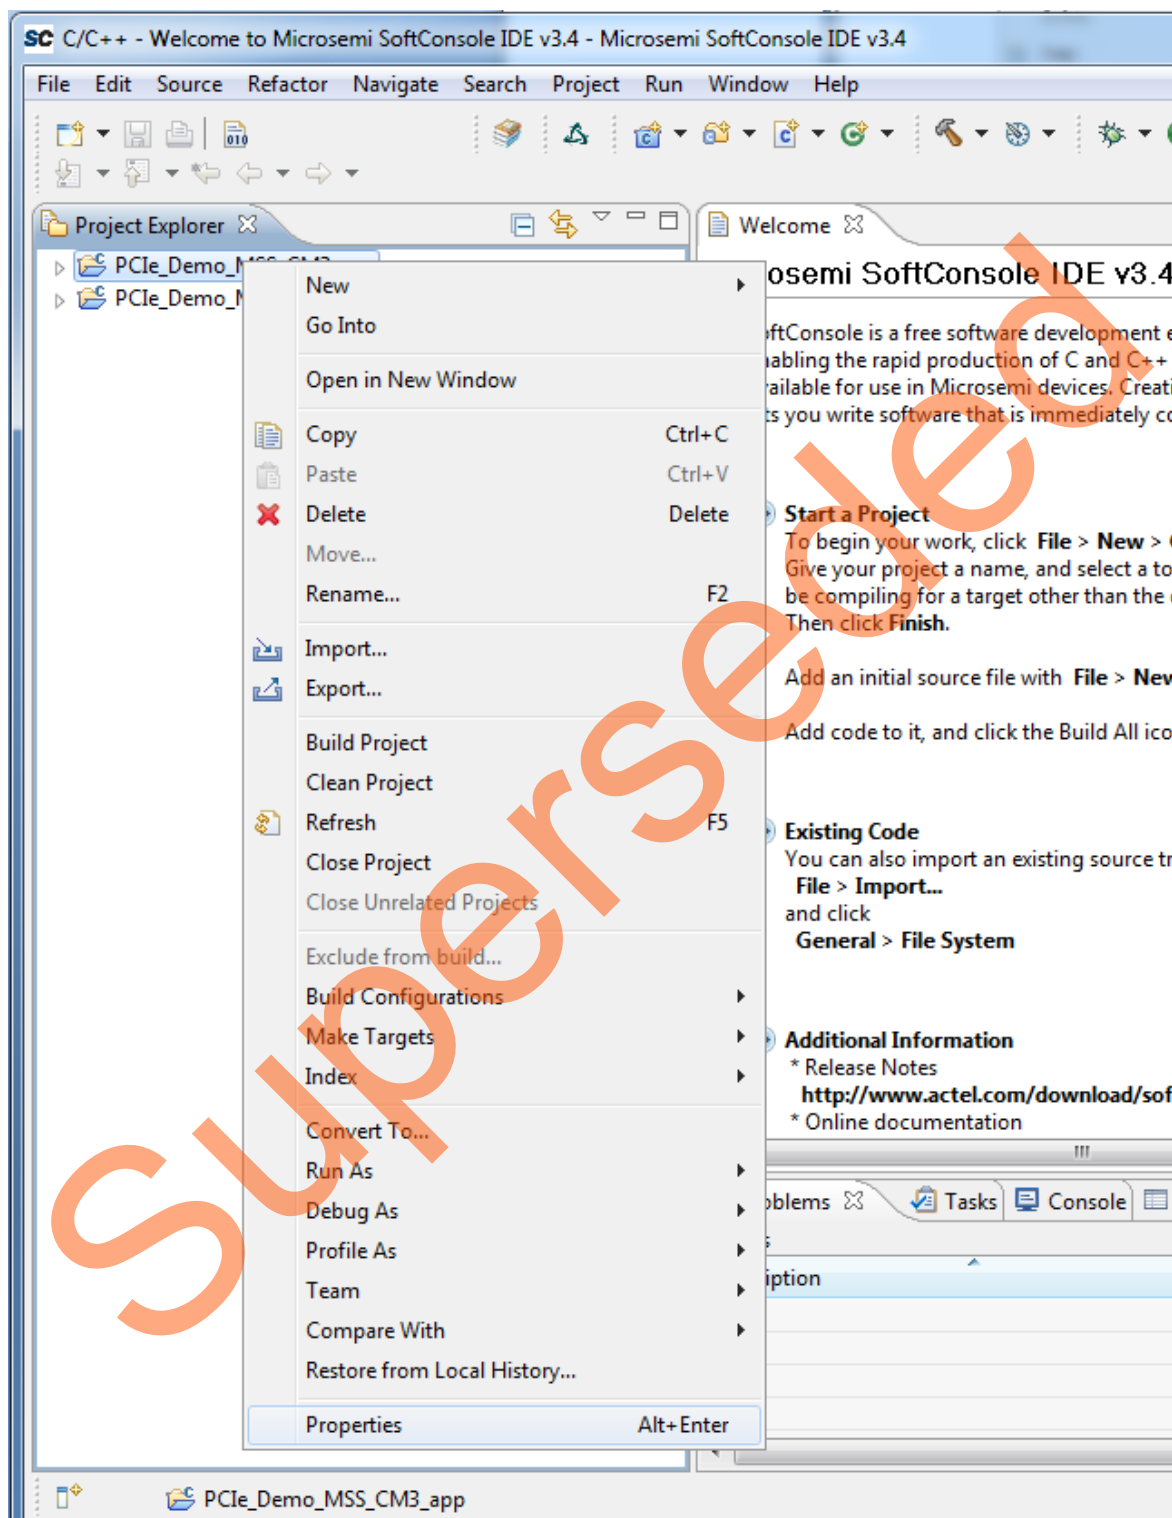

Figure 32 • Properties Option
5. Select **PCle_Demo_MSS_CM3_app**. Right-click and select **Properties** as shown in Figure 32.